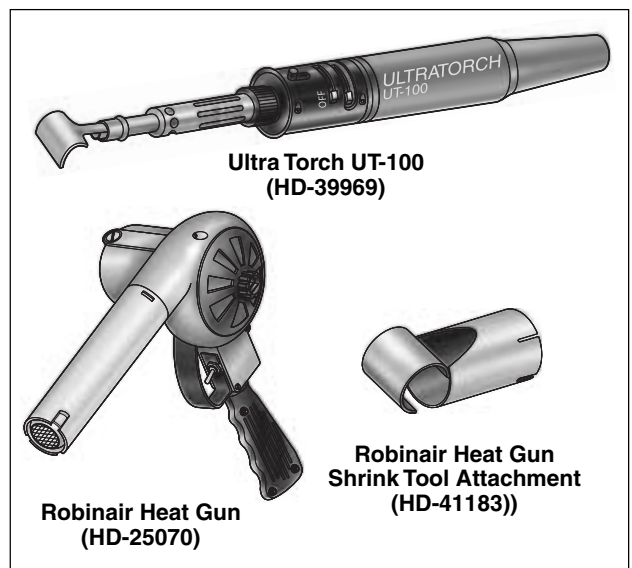

Figure 8-109. Radiant Heating Devices
6. See Figure 8-109. Using the UltraTorch UT-100, Robinair Heat Gun with heatshrink attachment or other suitable radiant heating device, uniformly heat the heat-shrink tubing to insulate and seal the soldered connections. Apply heat just until the meltable sealant exudes out both ends of the tubing and it assumes a smooth cylindrical appearance.